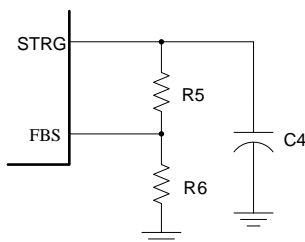

Figure 13: Storage Feedback Circuit
V_{STRG} is set by the external feedback (FB) resistors R5 and R6 (see Figure 13).